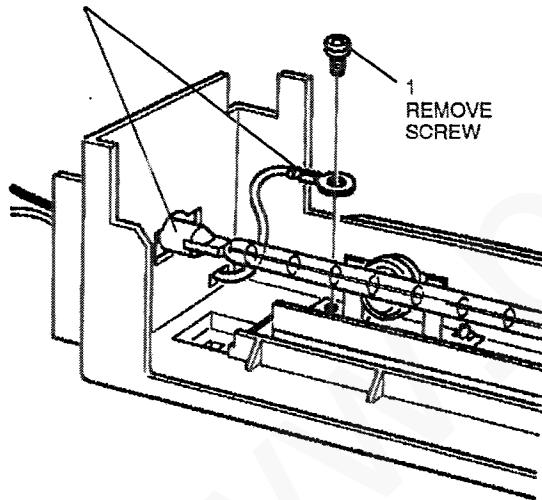

Figure 1. Fuser rod removal
3. (Figure 1) Remove the fuser rod.
2. Connect the fuser rod cable to the terminal in the fuser cover (Figure 1).